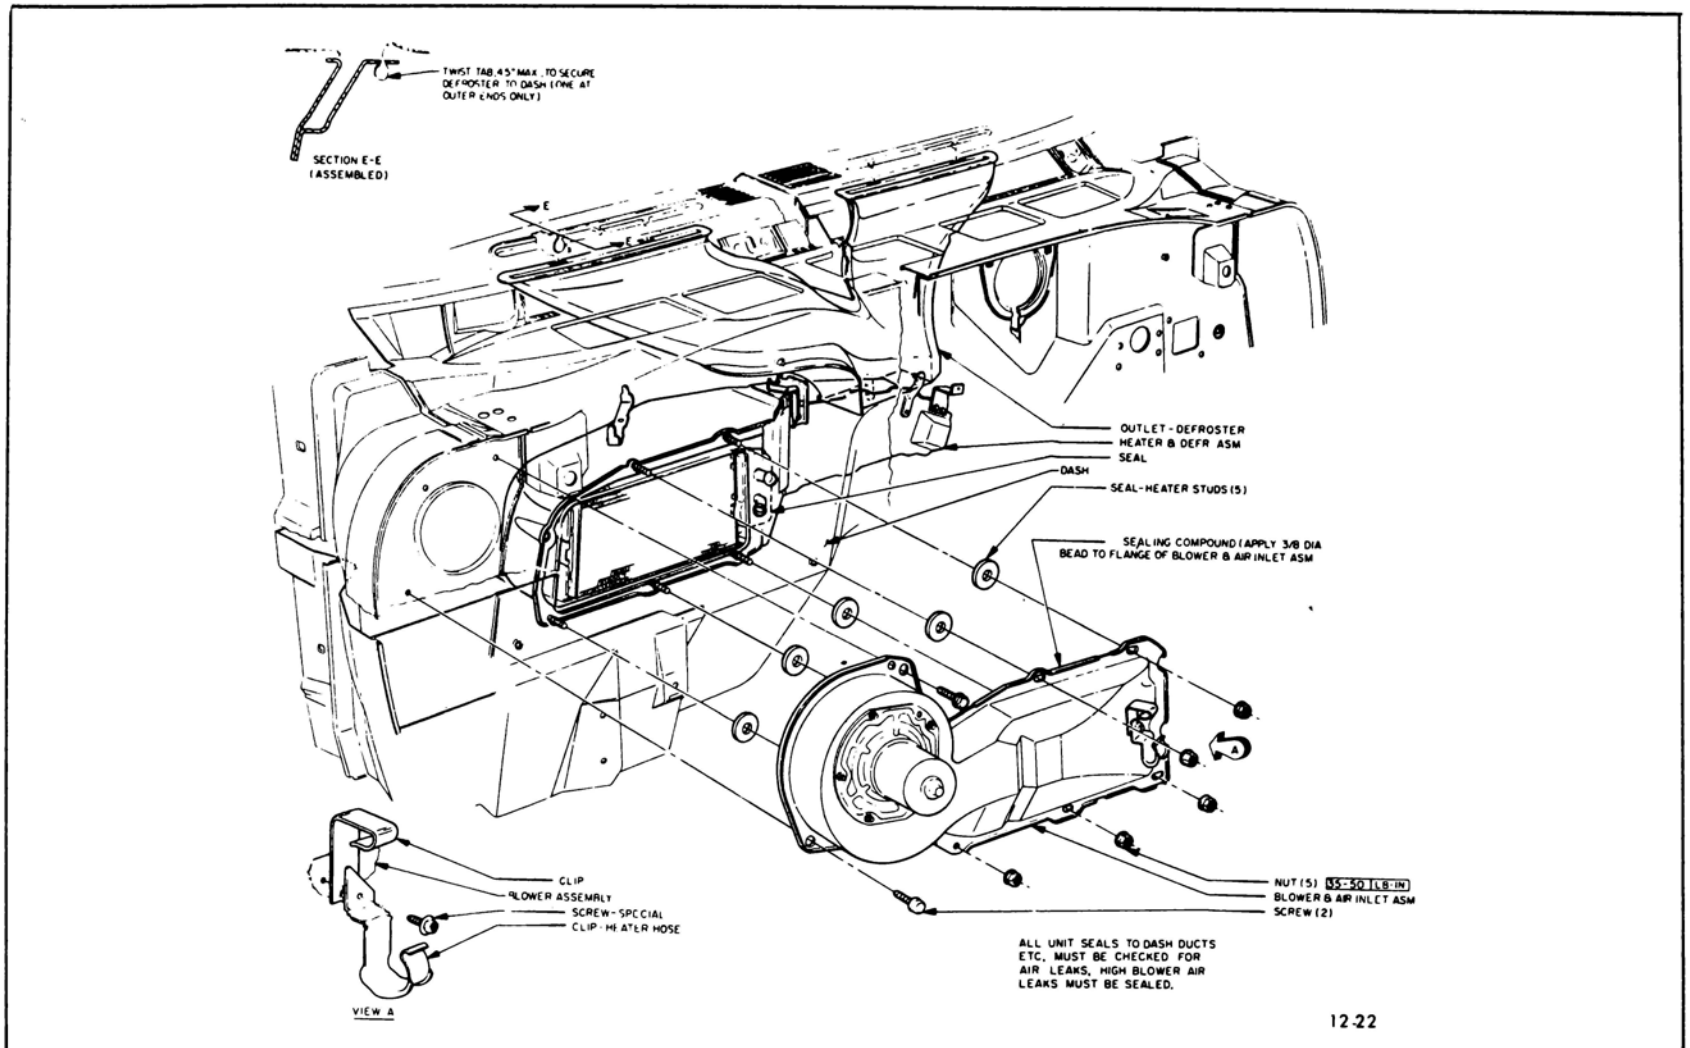

Figure 12-2 Heater Installation
The system consists basically of three parts: (1) the blower and air inlet assembly, (2) the heater assembly and (3) the heater control assembly (see Figure 12-2). The operation of the system is as follows:
3. (Blower Motor and Air Inlet Assembly) Disconnect blower motor wire. Remove five nuts and two screws securing blower and air inlet assembly to dash. See Figure 12-2.